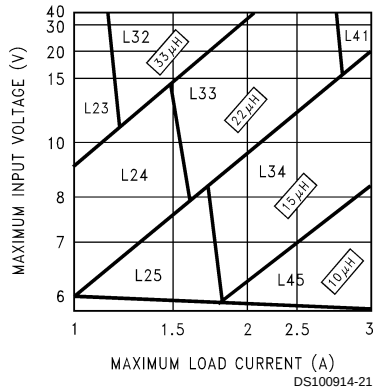
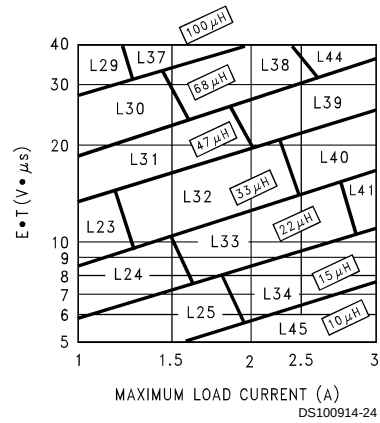

FIGURE 3. LM2676-3.3
FIGURE 6. LM2676-ADJ
Step 3: Determine the inductor required by using one of the four nomographs, *Figure 3* through *Figure 6*. Table 1 provides a specific manufacturer and part number for the inductor.
Step 5: Determine an input capacitor from Table 4 for fixed output voltage applications. Use Table 2 to find the specific capacitor type. For adjustable output circuits select a capacitor from Table 2 with a sufficient working voltage (WV) rating greater than $V_{in\ max}$, and an rms current rating greater than one-half the maximum load current (2 or more capacitors in parallel may be required).
Step 3: Use the nomograph for the 3.3V device, *Figure 3*. The intersection of the 16V horizontal line ($V_{in\ max}$) and the 2.5A vertical line ($I_{load\ max}$) indicates that L33, a 22 μ H inductor, is required.
Step 3: To use the nomograph for the adjustable device, Figure 6, requires a calculation of the inductor Volt•microsecond constant ($E \cdot T$ expressed in $V \cdot \mu s$) from the following formula:
Using Figure 6, the intersection of 27V•μS horizontally and the 2A vertical line (I_{load} max) indicates that L38, a 68μH inductor, should be used.
Important Note: When using the adjustable device in low voltage applications (less than 3V output), if the nomograph, Figure 6, selects an inductance of 22μH or less, Table 6 does not provide an output capacitor solution. With these conditions the number of output capacitors required for stable operation becomes impractical. It is recommended to use either a 33μH or 47μH inductor and the output capacitors from Table 6.